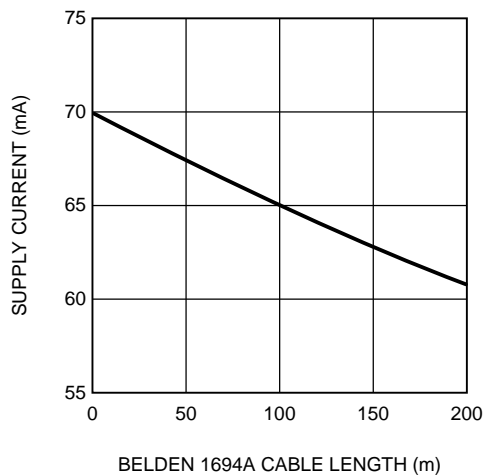
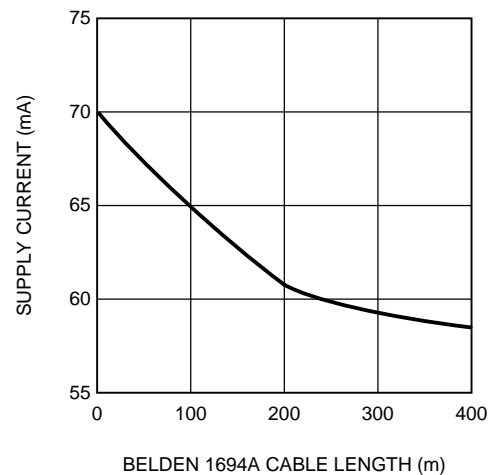

Figure 2. Supply Current vs. Belden 1694A Cable Length, 1.485 Gbps
Figure 3. Supply Current vs. Belden 1694A Cable Length, 270 Mbps
(6) Supply current depends on the amount of cable being equalized. The current is highest for short cable and decreases as the cable length is increased. Refer to Figure 2 and Figure 3.
The supply current (I_{CC}) depends on the amount of cable being equalized. The current is highest for short cable and decreases as the cable length is increased. Figure 2 shows supply current vs. Belden 1694A cable length for 1.485 Gbps data and Figure 3 shows supply current vs. Belden 1694A cable length for 270 Mbps data.